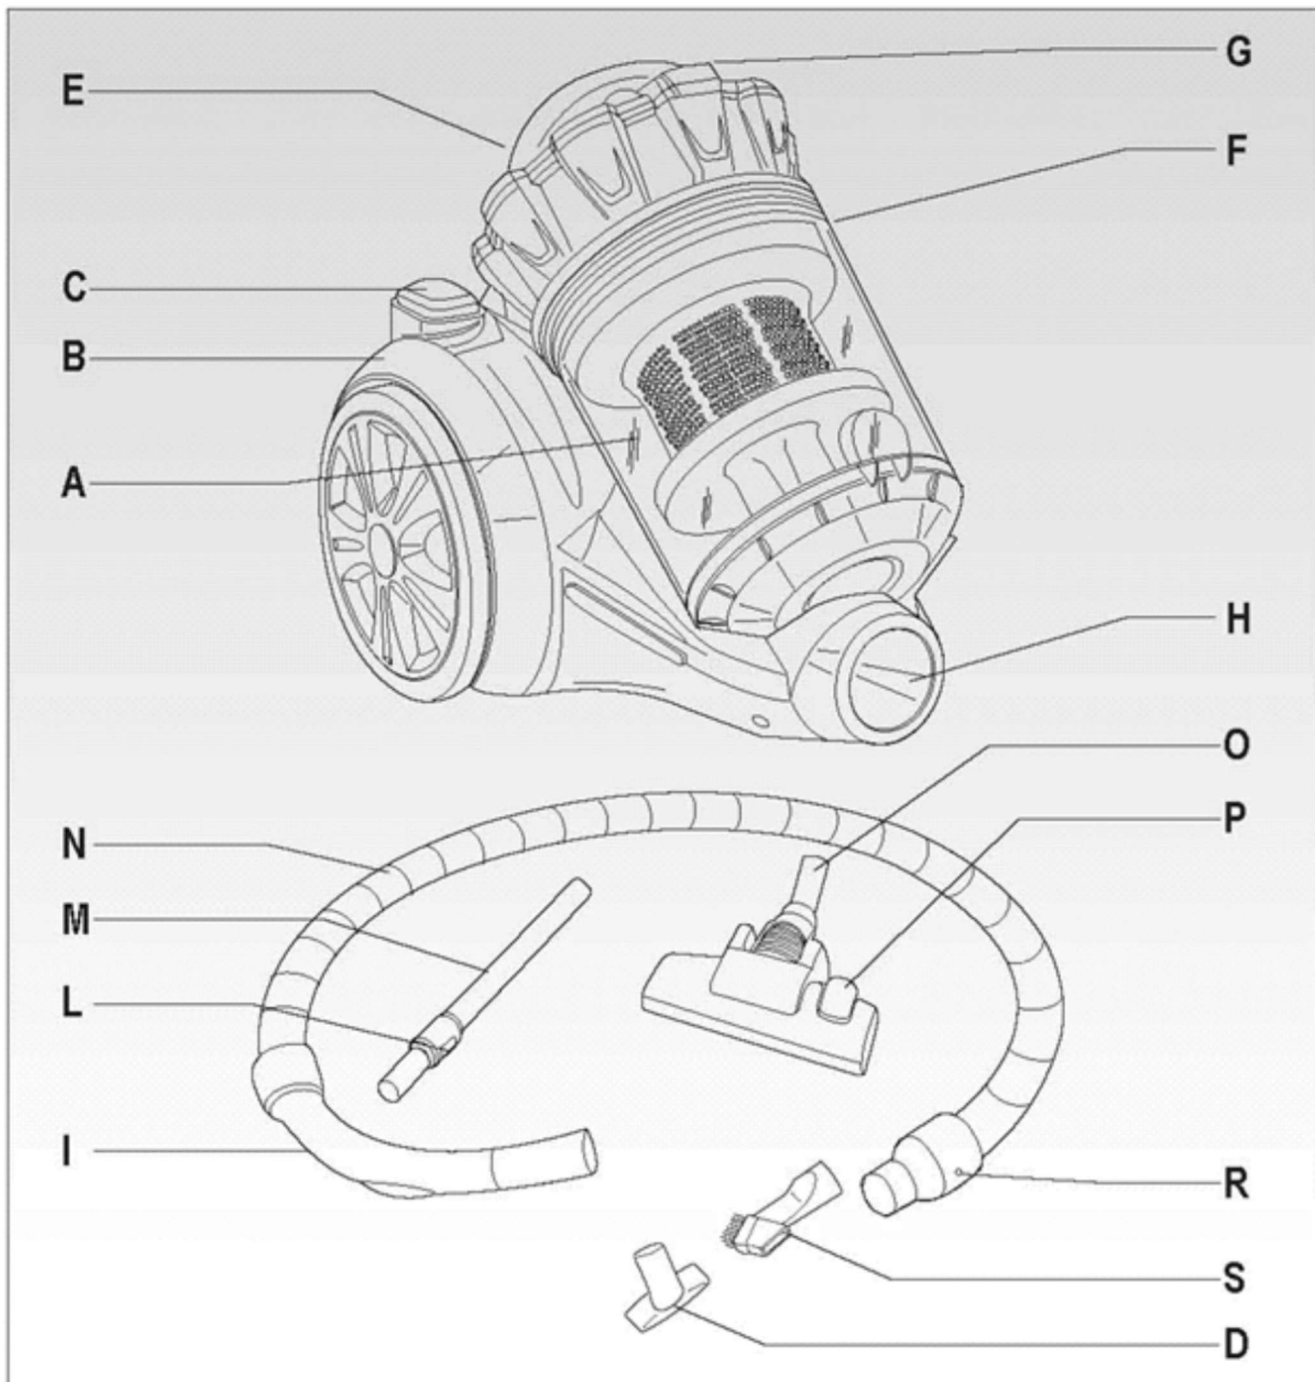

Fig. 1
**DESCRIPTION OF THE APPLIANCE (Fig. 1)**